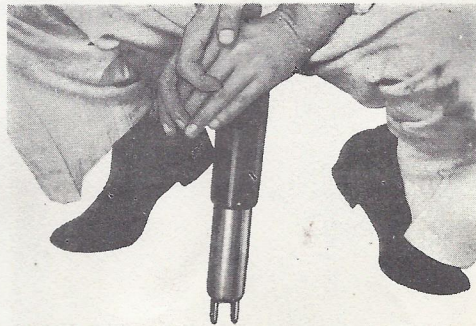

Fig. 4-4-1
- a. Remove the rear shock, and depress it with the hand two or three times. If the spring quickly restores half-way, and gradually stretches for the last 10 mm, the shock is considered to function perfectly. If the spring restores entirely with quick motion, there may be oil leakages. Replace the whole rear shock ass'y. (Fig. 4-4-1)